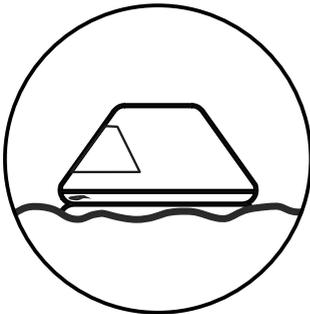

Fig 9 - Locate the hole or leak
1. The method of sealing allows for it to be used underwater. It is simple to use and is a quick and easy way to make sure you stay afloat. Locate the hole or leak (Fig 9).